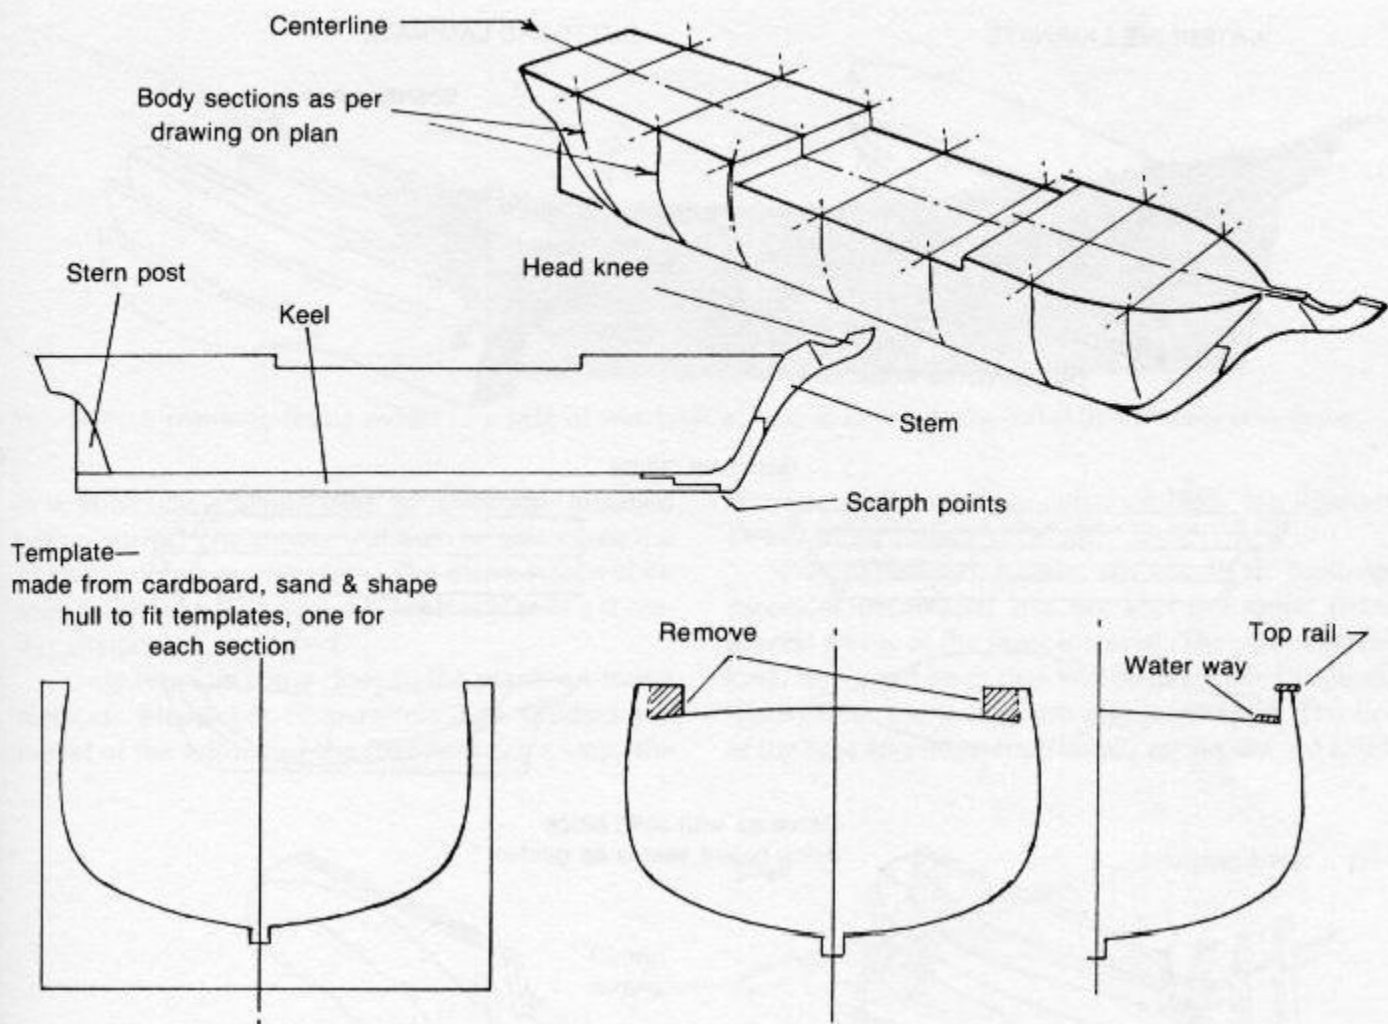

Fig. 10-5. Steps in accurate hull carving and preparation of solid kit hulls (Courtesy of Northshore Deadeyes, Ltd.).
- ⊕ You can apply decking in one piece (FIG. 10-5). Scribed decking is often furnished with the kit or as individual planks. (See Chapter 9.)